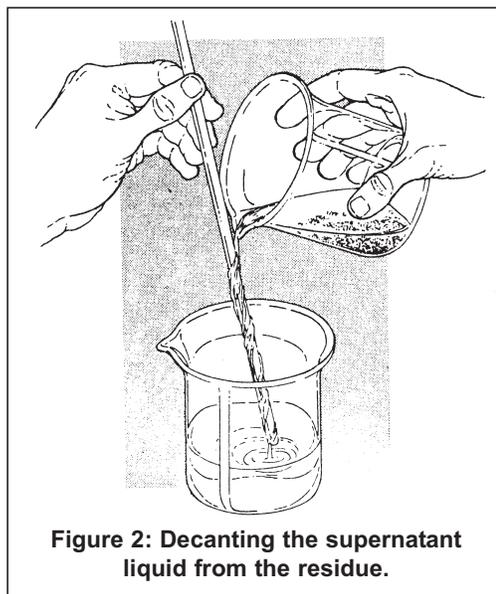

Figure 2: Decanting the supernatant liquid from the residue.
- Let the crystals settle in the beaker. Carefully decant the solution. Decant means to pour off liquid, leaving solid behind, as shown in Figure 2. Add 5 mL of dilute silver nitrate solution and stir gently until any flecks of copper disappear. Carefully decant again. Wash the residue with 10 mL of water and carefully decant. Wash and decant at least three more times. You may neglect the few particles that may float over with the wash water since the amount is usually not weighable.